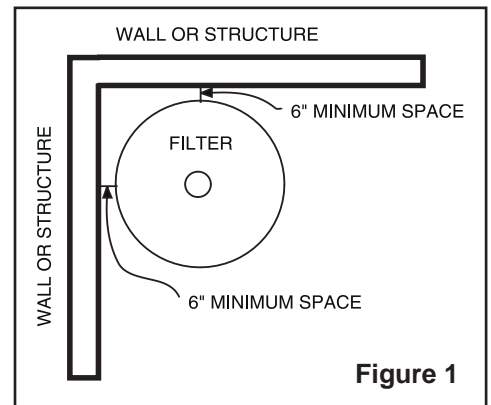

Figure 1
- Install electrical controls (e.g., on/off switches, timers, control systems, etc.) at least five (5) feet from the filter. This will allow you enough room to stand clear of the filter during system start up.
- Allow sufficient clearance around the filter to permit visual verification that the clamp is properly installed around the tank flanges, see **Figure 1**.